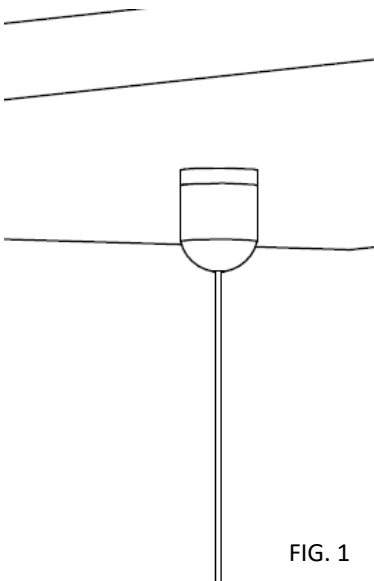

FIG. 1
- Depending on your mounting surface type, securely fasten the suspension kit (Fig. 1).